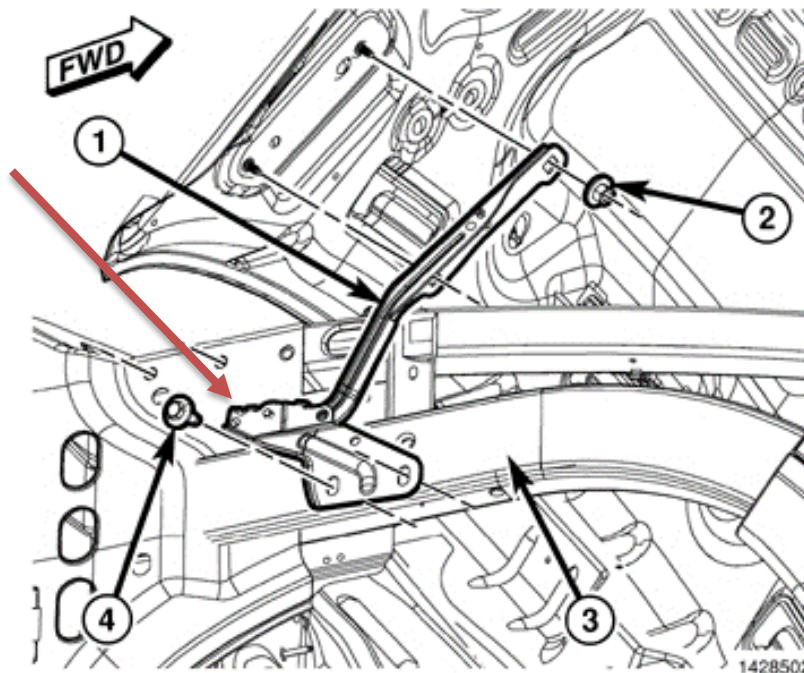

Fig 1
- b. Loosen the four nuts that secure the hood to the upper hood hinge bracket, so they can be removed by hand as shown in **Fig 1** labeled (2).
- m. Remove the single bolt that secures the fender to the hood hinge bracket near the windshield indicated by the red arrow in **Fig 1**.
- n. Remove and save the two bolts labeled (4) from **Fig 1**. Its easier to access the two bolts from up through the wheel well and behind the fender.